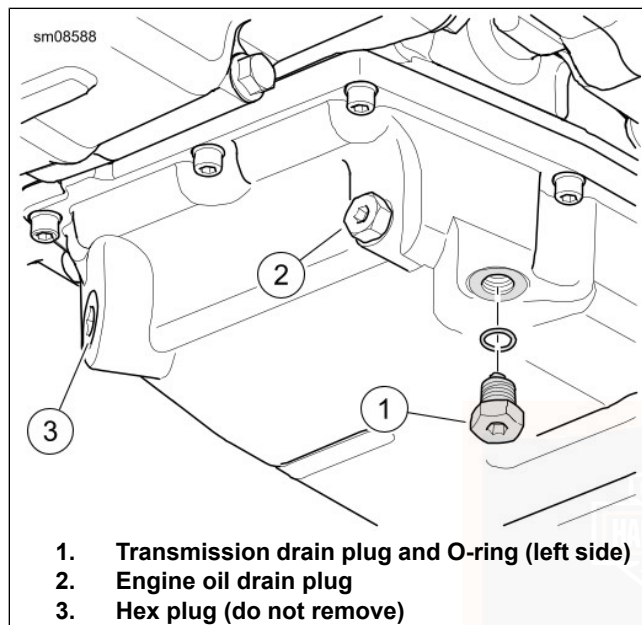

Figure 60. Transmission Drain
2. See Figure 60. Remove transmission drain plug. Drain transmission.